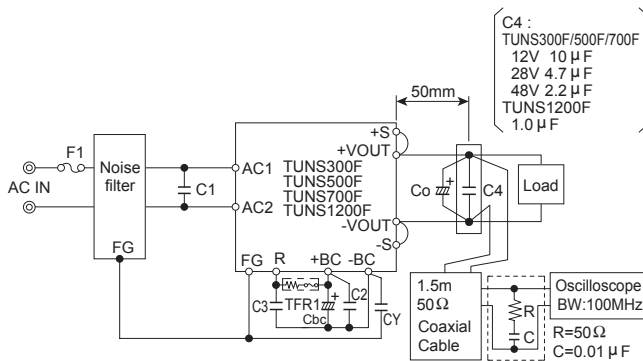

Fig.2.1 Method of Measuring Output Ripple and Ripple Noise
- The specified ripple and ripple noise are measured by the method introduced in Fig.2.1.